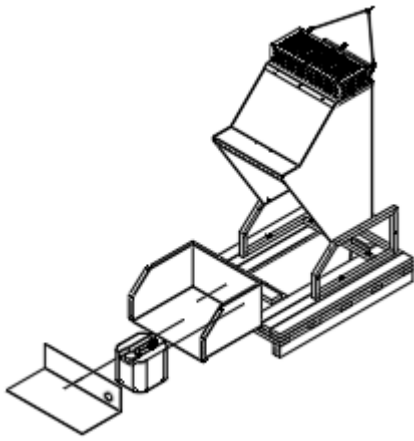
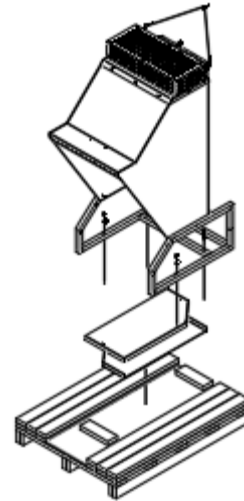

Figure 1.1
Figure 1.2
- Your unit may arrive enclosed in a wooden crate. The Hood is secured to a wooden platform by means of high-tensile strength 1/4"-20 x 2" lag bolt. Remove back panel, ANSULEX ® Fire Suppressant, 3.0 Gallon, and tray (Figure 1.1). Remove lag bolts from frame. Remove frame and side panels (Figure 1.2)